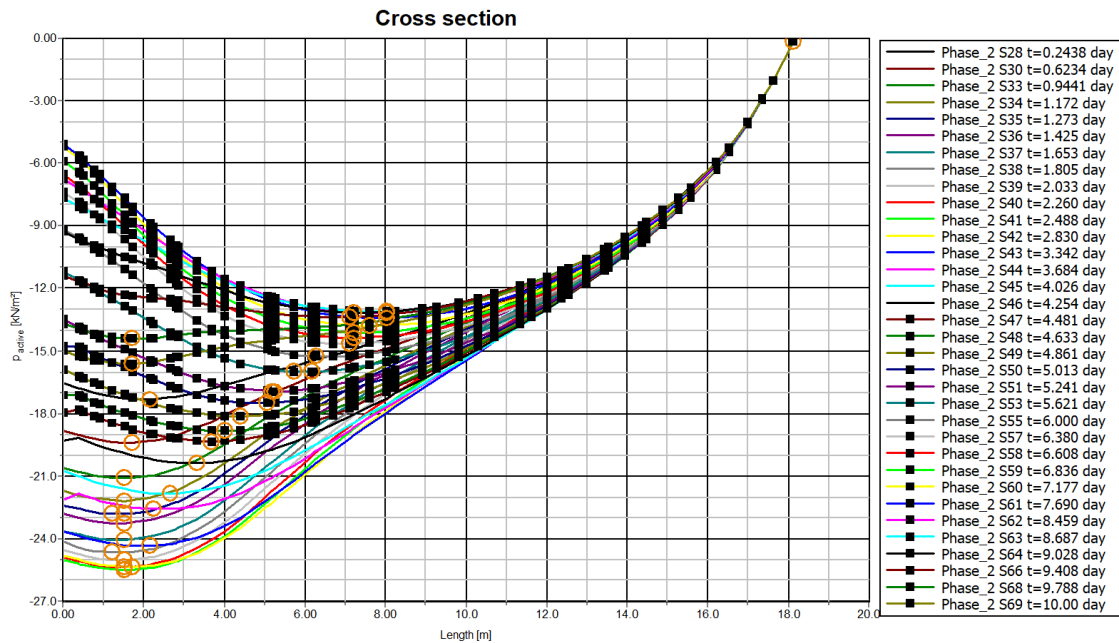

Figure 161: Active pore pressure variation in the cross section in Phase 2
5. Do the same for Phase 2. This may take about 30 seconds which is shown in Figure 161 (on page 185).